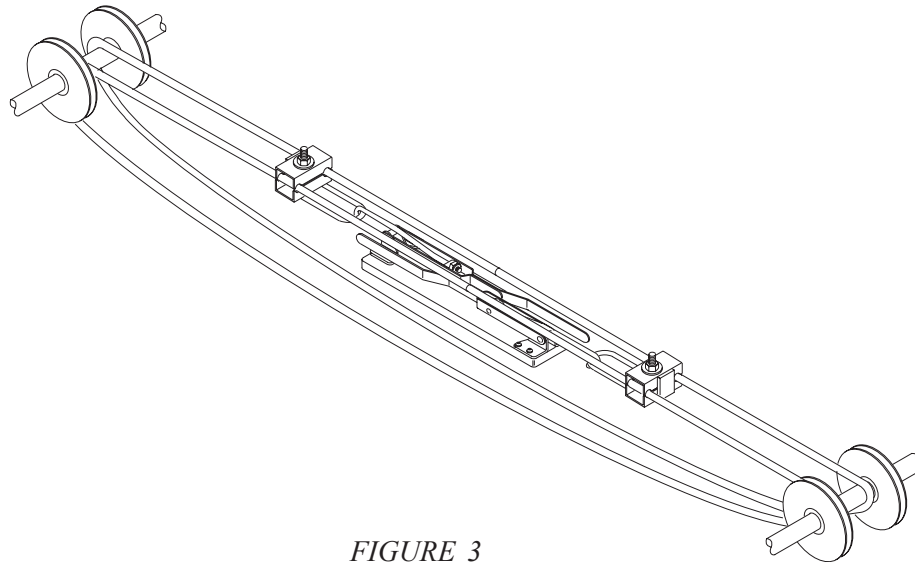

FIGURE 3
3. Close both levers bringing the belts to a workable welding position. Refer to *Figure 3*.